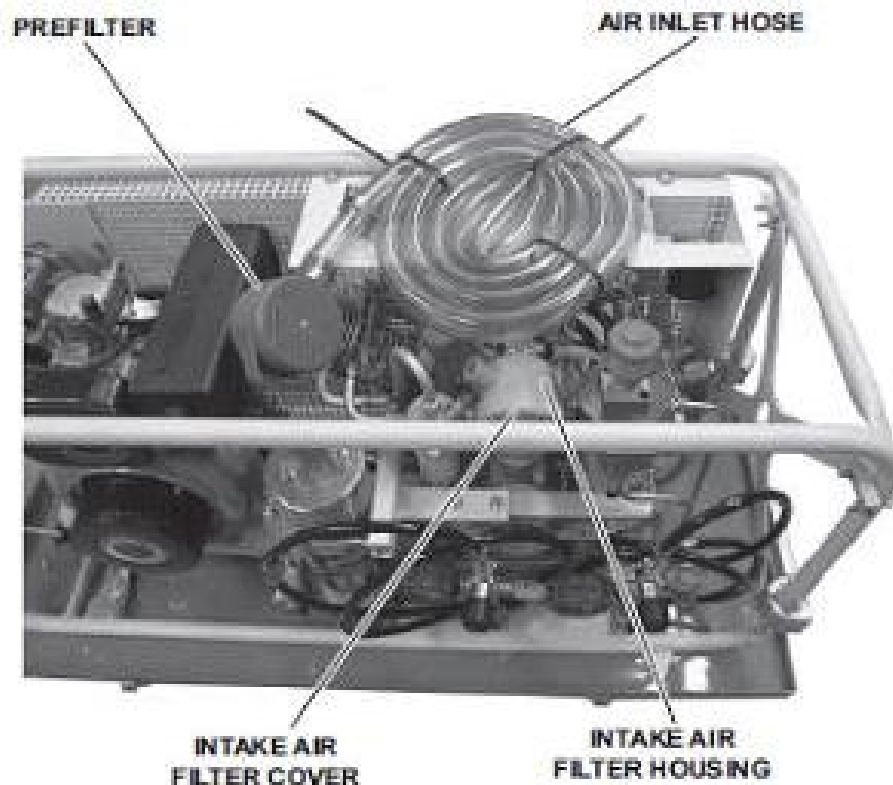

Figure 551-8ST-1004\_47 (Air Intake Filter Assembly)
(1) Lock out, tag out.
(2) Perform the following steps to clean or change the compressor intake air filter:
(3) Remove the compressor air filter cover from the air filter housing by turning it counterclockwise. (Figure 551-8ST-1004\_47)